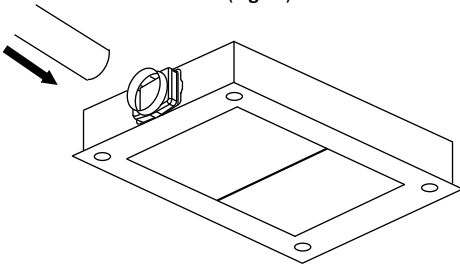

Fig 12
2. Mount the rigid ducting onto the plastic connector of the hood (Fig 12).